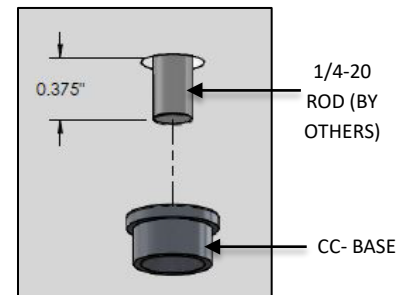

FIG. 12 – GRID CEILING INSTALLATION
6. Add a light thread locking compound to the 1/4-20 ROD (by others). Then thread CC-BASE to 1/4-20 ROD protruding through the ceiling material as shown in FIG. 12.